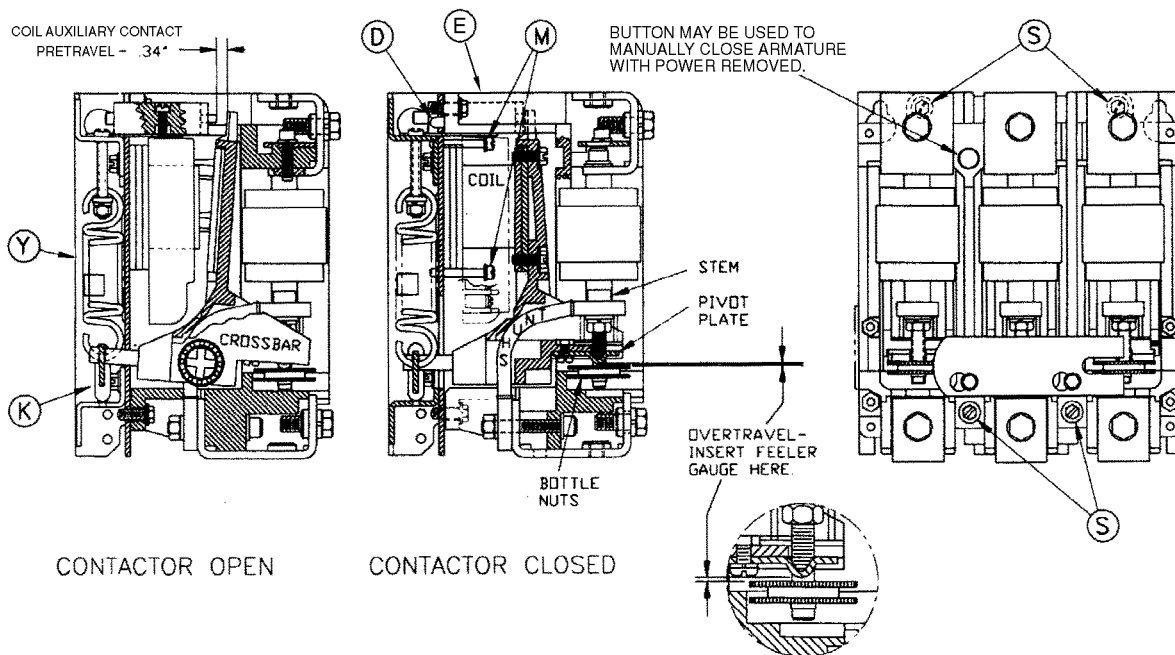

Figure 1 Size 5 Vacuum Contactor, Class 8502 Type WGO
When the contactor is fully closed, there is a gap between the pivot plate and the bottle stem as shown in Figure 1 on page 5. This gap is a measurement of the contact overtravel and is equivalent to the contact wear allowance provided on a new contactor. During the life of the contactor, contact material continually vaporizes from the contact faces and condenses inside the bottle, reducing the overtravel. Periodic measurement of this overtravel provides an indication of contact wear. **Do not re-adjust bottle position, which is set at the factory.**
5. Use the 0.020" thick fork-shaped overtravel gauge supplied to measure the gap between the pivot plate and the bottle stem as shown in Figure 1 on page 5. If the gap is more than 0.020" on all bottles, the contacts are suitable for further use. If the overtravel gauge will not fit into the gap on any bottle, the contactor must be replaced.
To replace the coil (Refer to Figure 1 on page 5 for item locations):
The nominal 0.34 inch pretravel gap shown in Figure 1 on page 5, (upper left corner) must be maintained on the normally-closed coil auxiliary contact for proper coil operation. If the pretravel gap is too large, the holding winding of the coil will not be inserted as the contactor closes, thereby causing the pickup winding to burn out due to the intermittent rating. If the pretravel gap is too small, the holding winding will be inserted too soon, thereby reducing the force to “hold” before the contactor is closed and causing the contactor to telegraph.
Factory recommended tightening torques are listed in Table 4. To ensure proper device operation, these tightening torques must be followed when installing, assembling or adjusting the device. Refer to Figure 1 on page 5 for item locations.